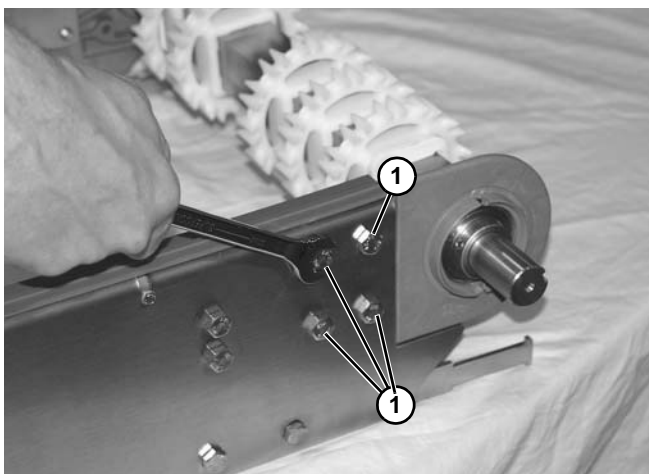

Figure 46
4. Remove four headplate screws (**Figure 46, item 1**). Repeat on opposite side of the conveyor.